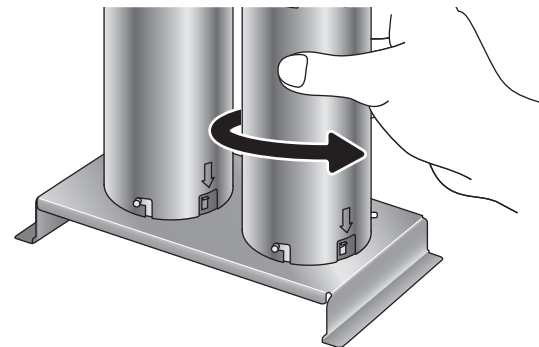

Fig. 8: Installing the reflectors
9. Re-install the reflectors, following the position markings 'arrow' (fig. 8).
Fit the reflector in such a way that the arrow mark on the reflector faces the corresponding recess on the grill insert (fig. 8). Otherwise you will not be able to install the grill insert correctly.